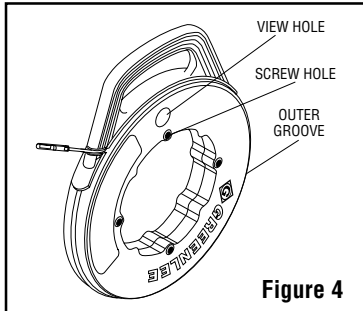

Figure 4
5. Insert a screw through the screw hole nearest the view hole. Place the fish tape into the case with the anchor loop or crimp fitting over the screw. See Figure 4.